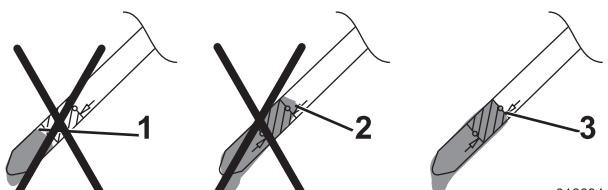

Figure 7
- If the oil level is too low, **slowly** pour a small amount of oil into the oil-fill tube, wait 3 minutes, and repeat steps **3** through **5** until the oil level on the dipstick is correct as shown in **Figure 7**.